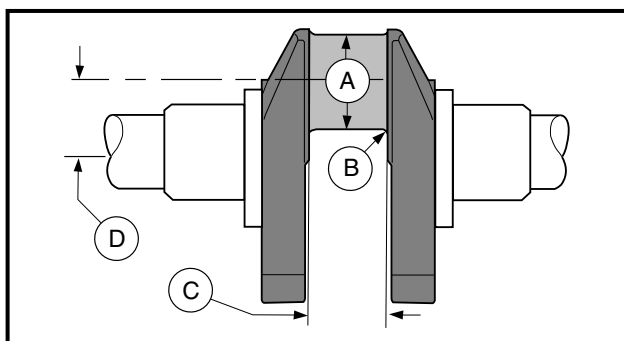

Figure 2-82 Crankshaft Finishing Dimensions
1. Have a reliable repair shop grind the crankshaft journal (A) (**Figure 2-82, Page 2-36**).
- (A) 1.3775 - 1.3779 inches (34.989 - 35.00 mm)
- (B) 0.110 - 0.126 inch (2.80 - 3.20 mm) radius two places
- (C) 1.12 inches maximum (28.4 mm)
- (D) 1.1811 - 1.1831 inches (30.0 - 30.05 mm)
3. The connecting rod journal (A) must be concentric and cylindrical within 0.0002 inch (0.005 mm) at full indicator reading (**Figure 2-82, Page 2-36**).